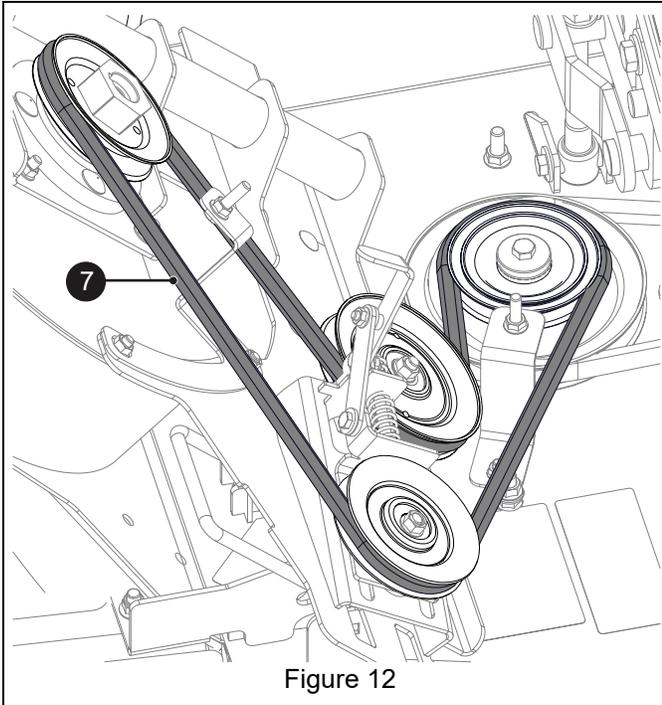

Figure 12
4. Install blower assembly on deck and install hex belt (item 7) on blower. Refer to bagger Operator's Manual for instructions. See Figure 12.